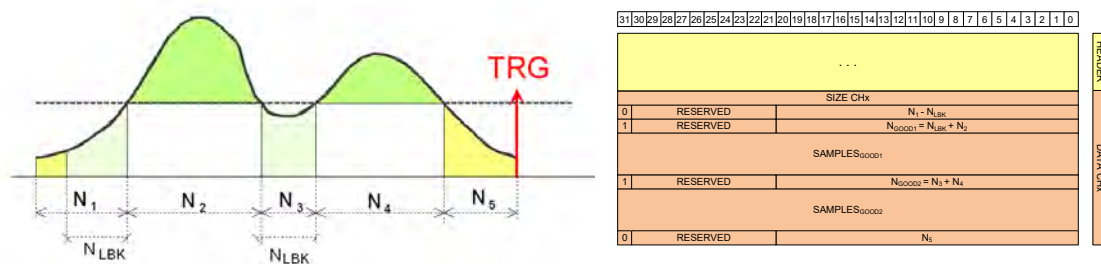

Fig. 7.14: Example with positive logic and N_{LBK} overlapping with N_3 .
3. Consider the case where N_{LBK} overlaps with N_3 ($N_3 \leq N_{LBK} < N_1$) and $N_{LFWD} = 0$. In this case all samples of N_3 are tagged as good and acquired. See for example Fig. 7.14. The same happens in case $N_{LBK} = 0$ and $N_3 \leq N_{LFWD} < N_5$.